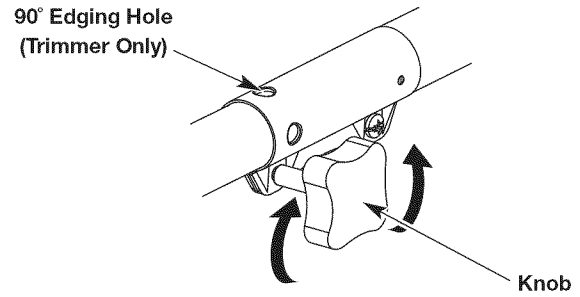
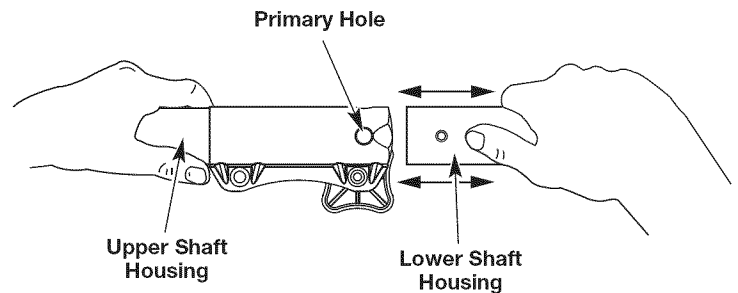

Fig. 6
Fig. 8
1. Turn the knob counterclockwise to loosen (Fig. 6).
2. While firmly holding the attachment, push it straight into the coupler until the release button snaps firmly into the primary hole (Fig. 8).
3. Turn the knob clockwise to tighten (Fig. 6).
CAUTION: Before operating the unit, make sure the release button is fully snapped into the primary hole (Fig. 8) and the knob (Fig. 6) is securely tightened.
For decorative edging with a string trimmer attachment, lock the release button into the 90° edging hole (Fig. 6).
3. While firmly holding the upper shaft housing, pull the attachment straight out of the coupler (Fig. 8).